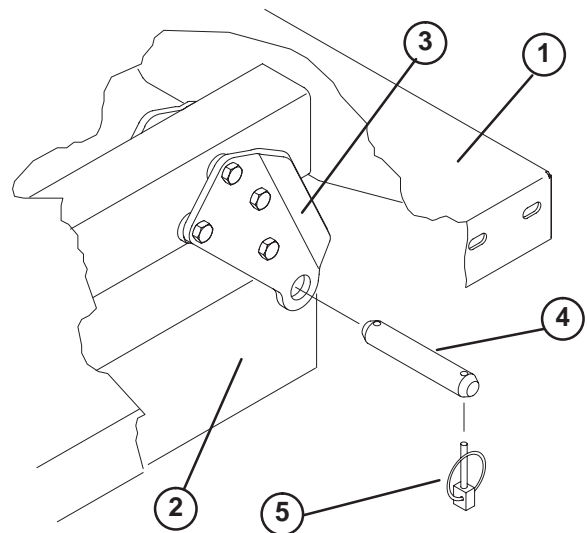

Figure 8
3. Remove clevis pins securing cylinder rod ends to bed mounting plates by pushing pins towards inside (Fig. 8).
4. Remove lynch pins and clevis pins securing pivot brackets to frame channels (Fig. 8).
Note: Assure rear pivot plates are bolted to the bed frame/channel so that lower end angles to the rear (Fig. 8).
2. Carefully set bed onto vehicle frame aligning rear bed pivot plate holes with holes in rear frame channel and install (2) clevis pins and lynch pins (Fig. 8).
3. With bed lowered, secure each cylinder rod end, to appropriate slots in bed mounting plates with clevis pin and lynch pin. Insert clevis pin from outside of bed with lynch pin toward outside (Fig. 8). Rear slots are for full bed installation and front slots are for 2/3 bed installation.